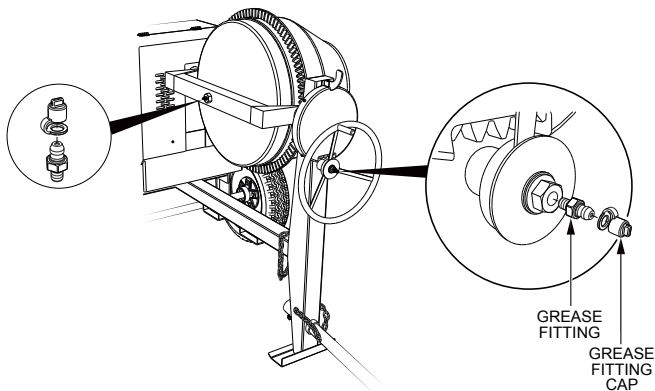

Figure 33. Grease Fittings (Mixer)
1. There are 3 grease (Figure 33) fittings that will require lubrication. Lubricate these fittings **once a week**. Use lithium base grease, grade No.1.